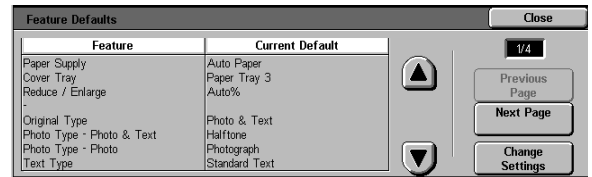

Figure 14: Feature Defaults screen
- 1 On the Tools screen, touch the **Feature Defaults** button to display the Feature Defaults screen, as illustrated in Figure 14.